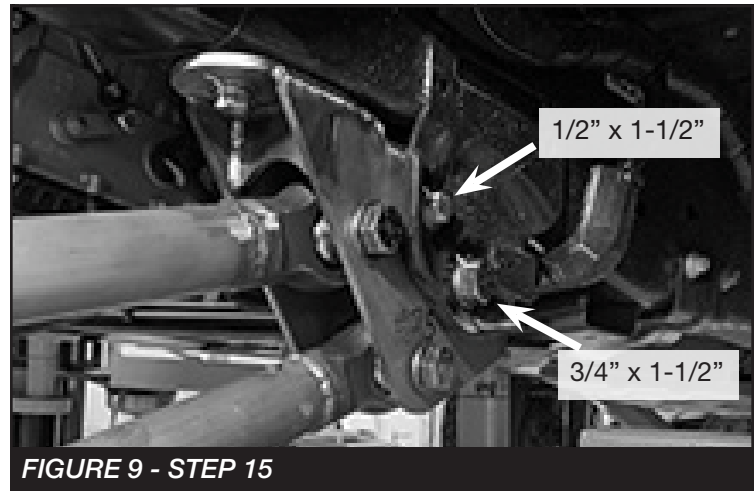

FIGURE 9 - STEP 15
15. Install FT31083 (4-Link Bracket) to the factory radius arm pocket using the supplied  $\frac{3}{4}$ " x 1-1/2" Bolts, washers and nuts and  $\frac{1}{2}$ " x 1-1/2" bolts, washers and nuts. **NOTE: Install on both the exterior and interior of the pocket. SEE FIGURE 9**